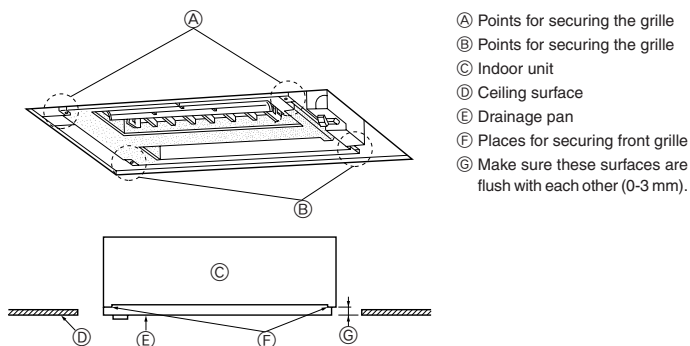

Fig. 7-1
①	Grille	1
②	Screw	6	M5 × 0.8 × 16
③	Screw	1	4 × 16
- Check that the four points where the front panel will be secured are in contact with the ceiling surface (see Fig. 7-1).